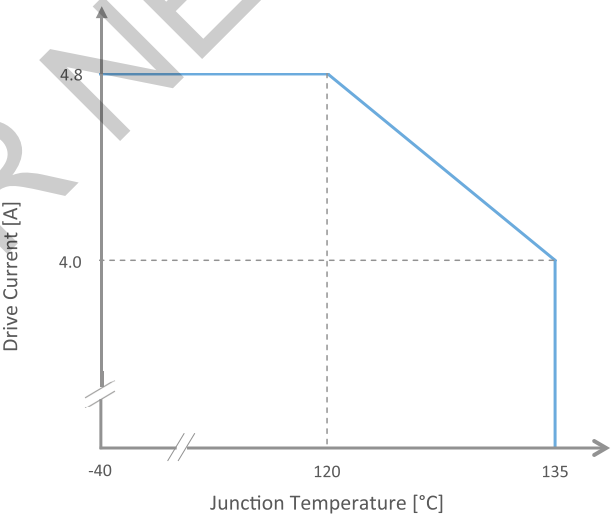

Figure 1. Maximum permissible operating conditions for LUXEON V
1. Proper current derating must be observed to maintain the junction temperature below the maximum allowable junction temperature, as shown in Figure 1.